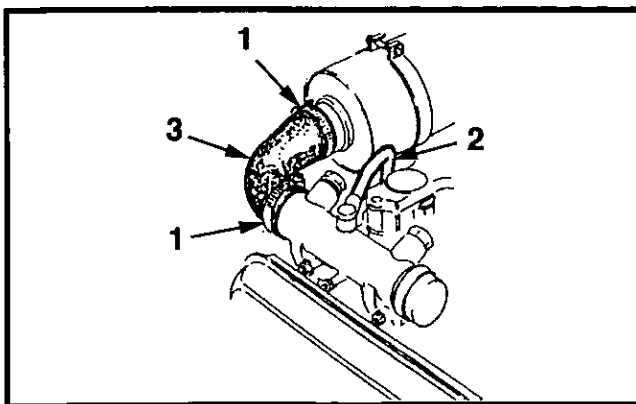

Figure 5-1 Air Cleaner - Engine Inlet Manifold Duct
1. Ensure all connections (1, Figure 5-1) between the air cleaner and engine inlet manifold are tight and sealed.
2. Ensure the crankcase breather hose (2, Figure 5-1) is free of defects which could result in dust leaking into the engine intake.
3. Ensure the air duct 3, Figure 5-1) is free of defects which could result in dust leaking into the engine intake.